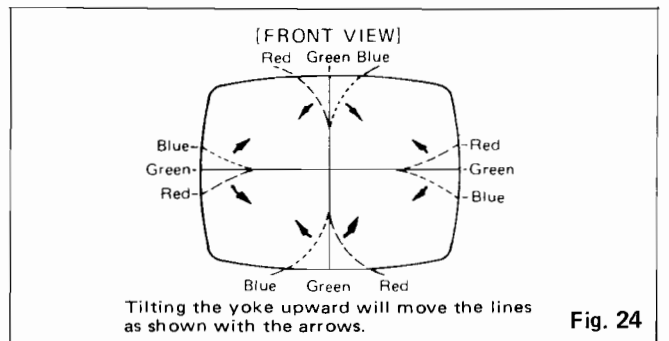

Fig. 24
8. Tilting the angle of the yoke up, down and sideways, and adjust the yoke so as to obtain the circumference convergence. (Fig. 24, 25.)